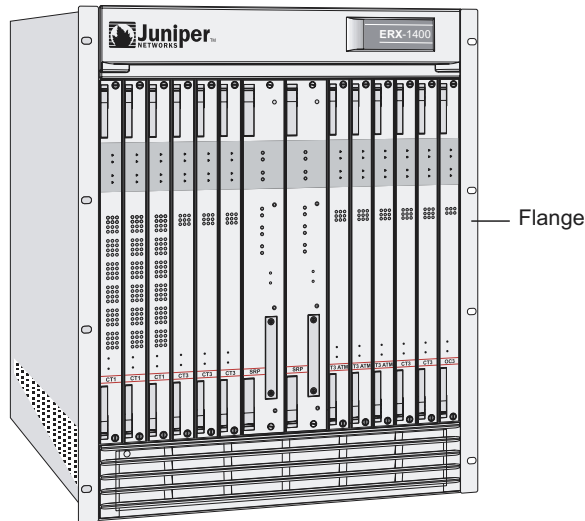

Figure 2-4 ERX-1400 series front view
- 2 Grasp the lower back of the unit with one hand and the front flange (see Figure 2-4) with the other.
- 3** Grasp the lower back of the unit with one hand and the lower front of the unit (see Figure 2-4) with the other hand.